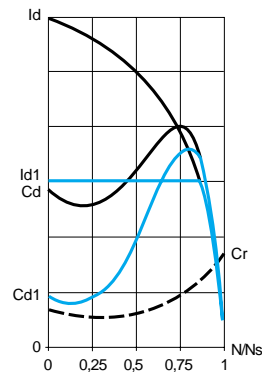

Figure 1
- Figure 1 shows the behaviour of the torque in relation to the starting current. Limiting the starting current  $I_s$  to a preset value  $I_{s1}$  will reduce the starting torque  $T_{s1}$  to a value which is almost equal to the ratio of the square of currents  $I_s$  and  $I_{s1}$ .